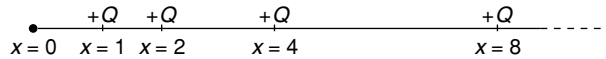

Fig. 1.53
22. Find the potential and field intensity at $x = 0$ due to these set of charges (Fig. 1.53); x represents the distance from origin in x -axis. Q is magnitude of charge.